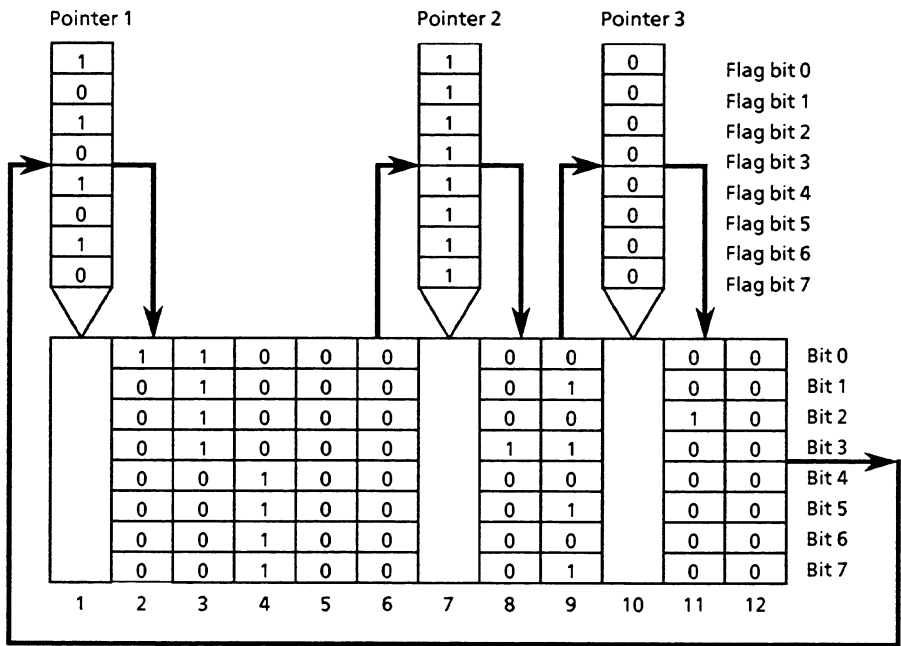

Fig. 20 Schematic diagram of the shift register with 3 pointers and 12 storage locations after the first clock pulse
**Example:** scanning of flag bits 0, 3 and 2 (Fig. 20) at the base pointer.